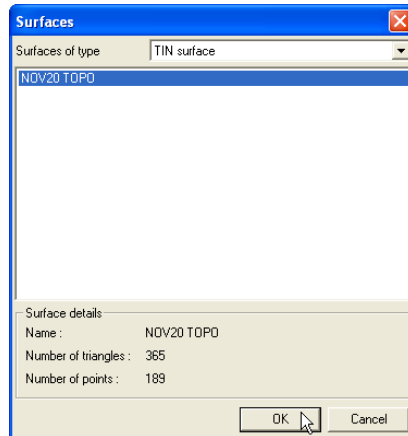

Figure 10-5. Select Surface to Compare
2. On the *Surfaces* dialog box, select the following and click **OK** (Figure 10-5):